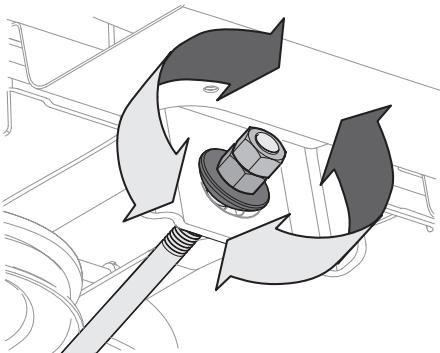

Figure 26
4. To raise the front of the deck, loosen the outer nut then tighten (thread inward) the inner nut against the front hanger bracket. See Figure 26. When proper adjustment is achieved, re-tighten the outer nut to 25-30 ft-lbs (34-41 N-m).
5. To lower the front of the deck, loosen the outer nut then loosen (thread outward) the inner nut, away from the front hanger bracket. See Figure 26. When proper adjustment is achieved, re-tighten the outer nut.